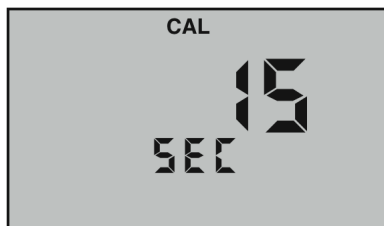

Figure 22
4. Press  to initiate. "CAL" will be displayed along with "15 SEC" or current Auto oFF value (see Figure 22).